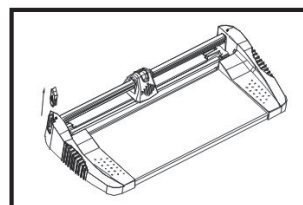

Fig 1.
**Step 1:** Remove the end cap by sliding it upwards (Fig 1).